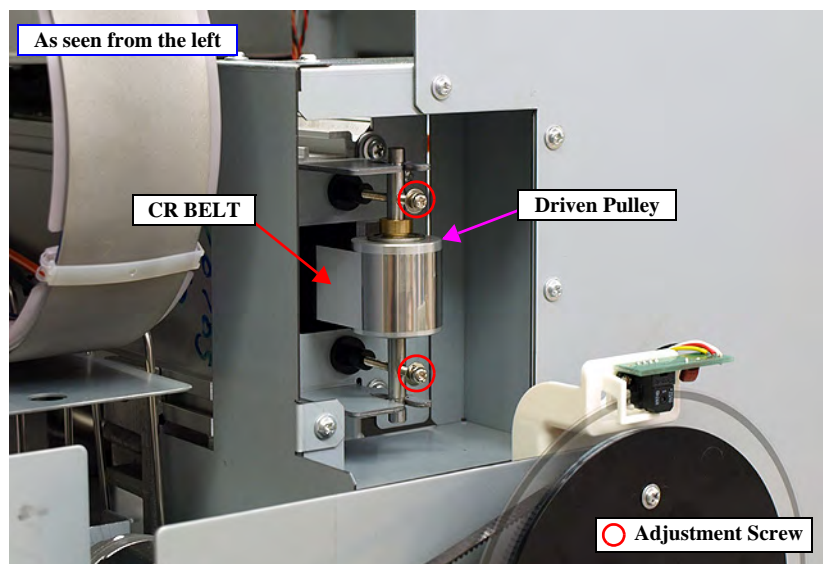

Figure 4-108. Relieving the tension of the CR BELT
5. Loosen the two adjustment screws of the Driven Pulley on the left side to relieve the tension of the CR BELT. *See Figure 4-108.*